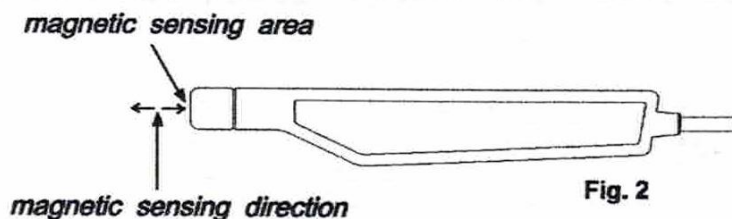

Fig. 2
3. Contact and close the testing material to the probe head (refer Fig. 2, page 9) the display will show the magnetic field value along with the unit (mG,uT).